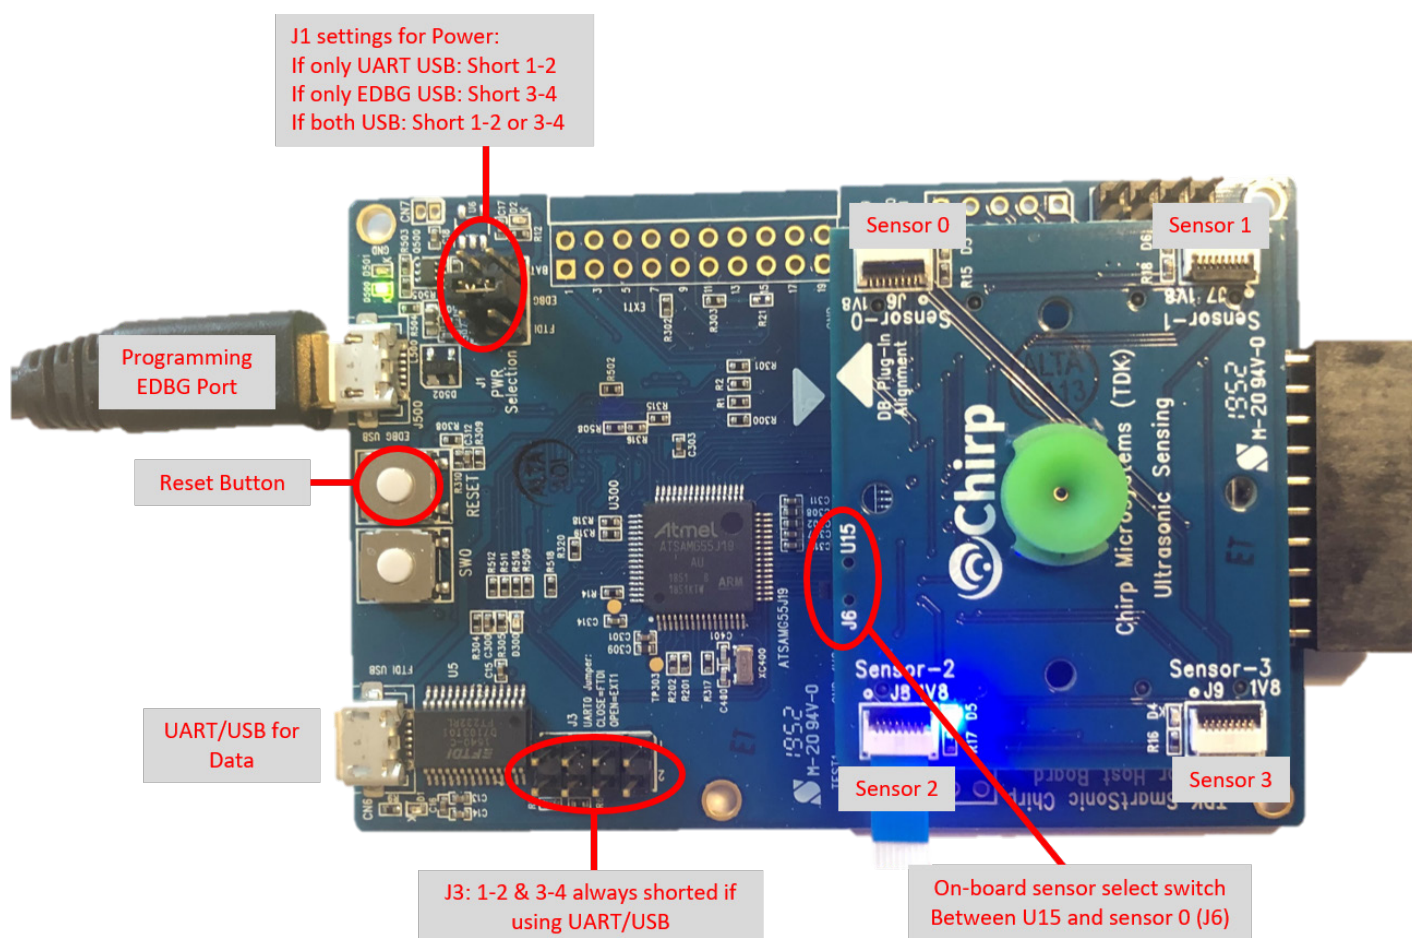

Figure 1. SmartSonic with CH201 Daughter Board
- Setup SmartSonic board Jumper J1 as in Figure 1. If only one cable is used (connected to the EDBG port), pins 3 & 4 should be shorted.